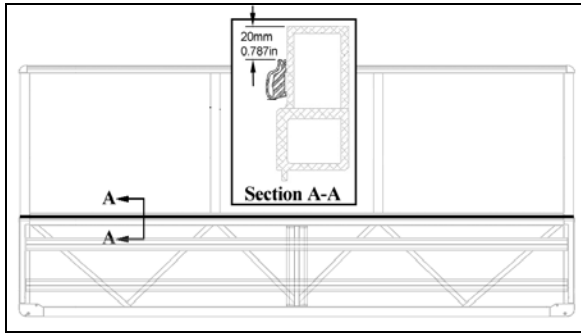
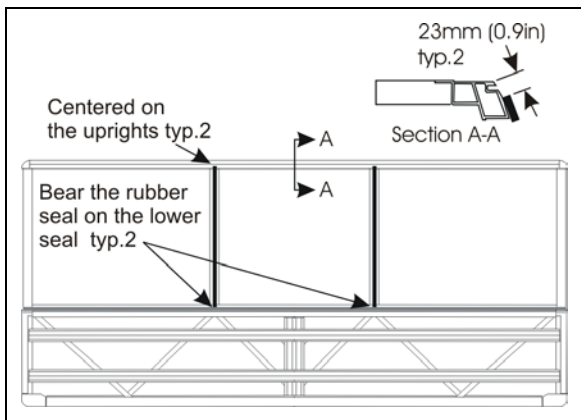

FIGURE 50: FACE FIXED WINDOWS - RUBBER SEAL INSTALLATION
FIGURE 51: FACE FIXED WINDOWS - RUBBER SEAL INSTALLATION
2. If necessary, install the rubber seals as per FIGURE 50 & FIGURE 51. Press the seal against the structure with a roller.